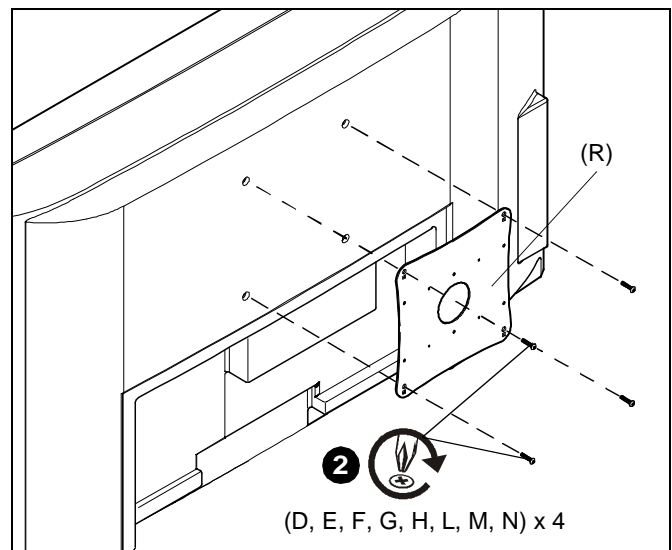

Figure 3
2. Attach VESA Plate (R) to display using appropriate screws (D, E, F, G, H, L, M, N). (See Figure 3)